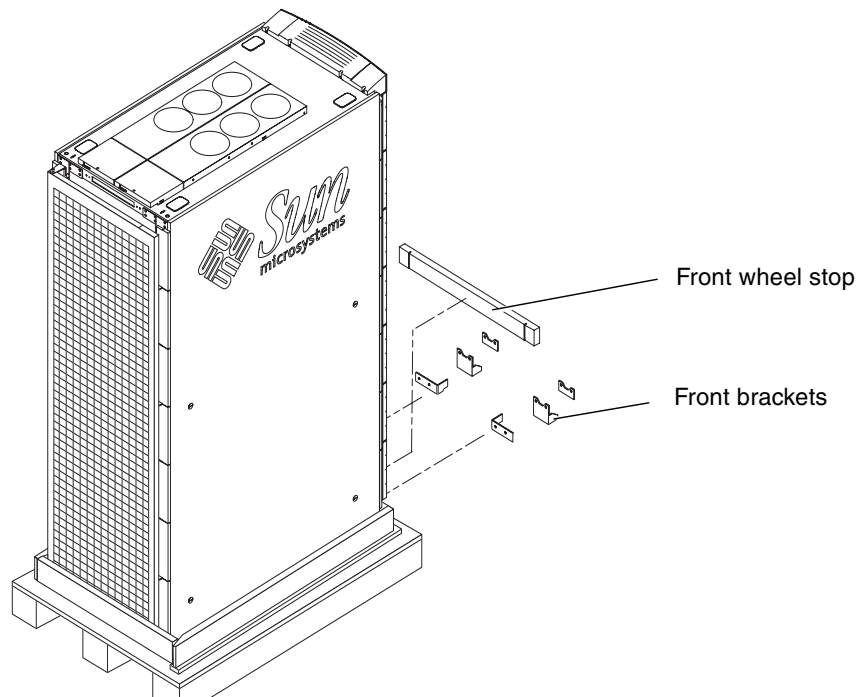

FIGURE 2-3 Front Brackets and Front Wheel Stop
2. Use the leveling wrench to remove the front brackets. Save the brackets for Step 11 (FIGURE 2-3).